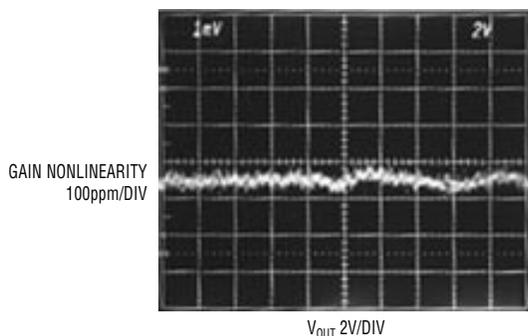
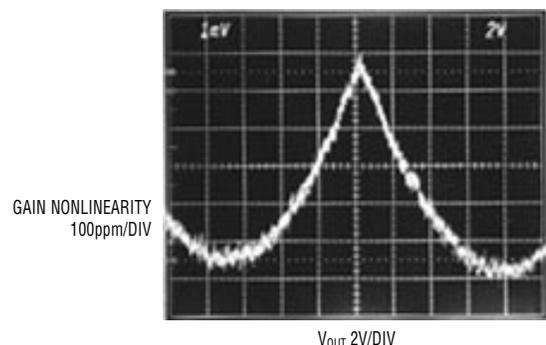

Figure 2. LT1167 gain nonlinearity: R_C = 1k; V_O = ±10V
Figure 3. Gain nonlinearity of a previous generation instrumentation amp: R_C = 1k; V_O = ±10V
0.1% for all gains up to one hundred, which is a 2.5x to 5x improvement over previous ICs. This gain error is maintained even when the output has to drive heavy loads, thanks to improvements in common centroid layout. The LT1167 maintains excellent performance even when driving heavy loads. Figure 2 is a photo of the LT1167 in a gain of one thousand driving a 1k load. Figure 3 is a previous generation IC instrumentation amplifier in the same condition. You can see why a 10k load resistor and not a 1k resistor was specified for older ICs.